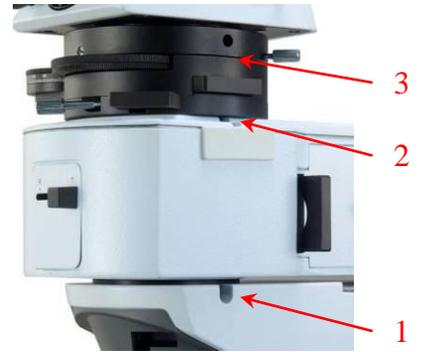

Fig. 2
- 1) Loosen the secure set screw 1 (see Fig.2) on the top of the microscope frame (27) with the Allen key and remove the black plastic cover.
- 2) Remove the plastic cap on the dovetail of the reflected light assembly (9).
- 3) Seat the dovetail into the socket on the top of the frame securely, and then tighten the set screw 1 (see Fig.2).
- 1) Loosen the secure set screw 2 (see Fig.2) on the top of the reflected light assembly (9) with the Allen key provided; remove the plastic cover on the top.
- 2) Remove the cover on the dovetail at the bottom of the intermediate attachment (21).
- 3) Insert the dovetail of the attachment into the socket of the assembly. Ensure that it completely seats in, tighten the set screw 2 (see Fig.2).
- 2) Loosen the secure set screw 3 (see Fig.2) in the intermediate attachment (21) with the Allen key provided, remove the plastic cover.
- 3) Remove the cap on the dovetail of the trinocular viewing head (5).
- 4) Seat the dovetail of the head into the socket of the attachment, and then tighten the set screw 3 (see Fig.2) with the Allen key provided.